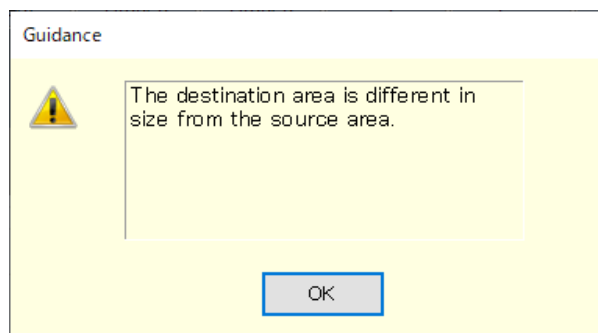

Figure 5-6 Error Dialog for Copying Data
- Row numbers and column items should be matched between the destination data range to be pasted and the source data range that was copied to the clip board. If the data ranges do not match, the error dialog shown in Figure 5-6 appears.